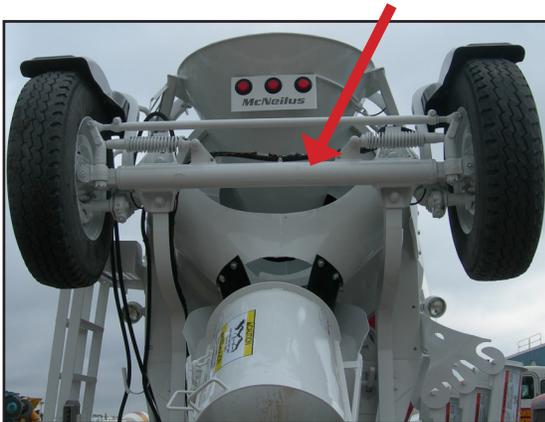

Figure 2: If the axle is a Round Cross Tube, the inspection is completed and the truck can be put back into service.
2. Raise the axle (as shown in Figure 2).
3. Inspect the axle cross tube. If the axle cross tube is a round cross tube, the inspection is completed and no further action is required (see Figure 2).